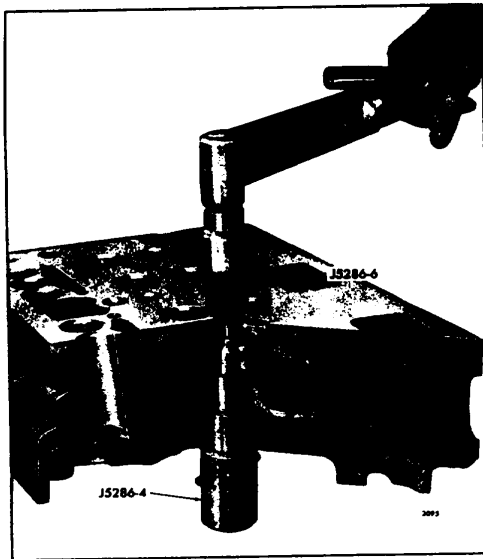

Fig. 3. - Upsetting Injector Tube
- a. Turn the cylinder head bottom side up, remove the pilot J 5286-5 and thread the upsetting die J 5286-6 into the tapped end of the installer J 52864 (Fig. 3.).